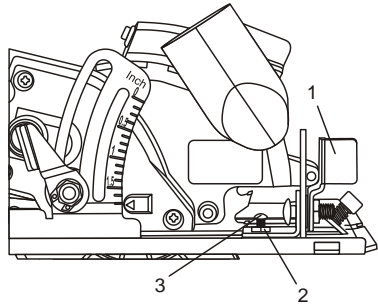

Fig. 4
1. Loosen the bevel locking lever (1) and rotate the sole plate toward the 0° mark as far as it will go and tighten the bevel angle locking lever (Fig. 4).
3. If the test cut is not at 90°, turn the zero adjustment lock nut (2) counter clockwise approximately ¼ turn using a 7mm wrench.
4. Use a #2 (+) screwdriver to turn the zero bevel adjusting screw (3) in or out until the saw is cutting at 90° when the sole plate is contacting the adjusting screw.